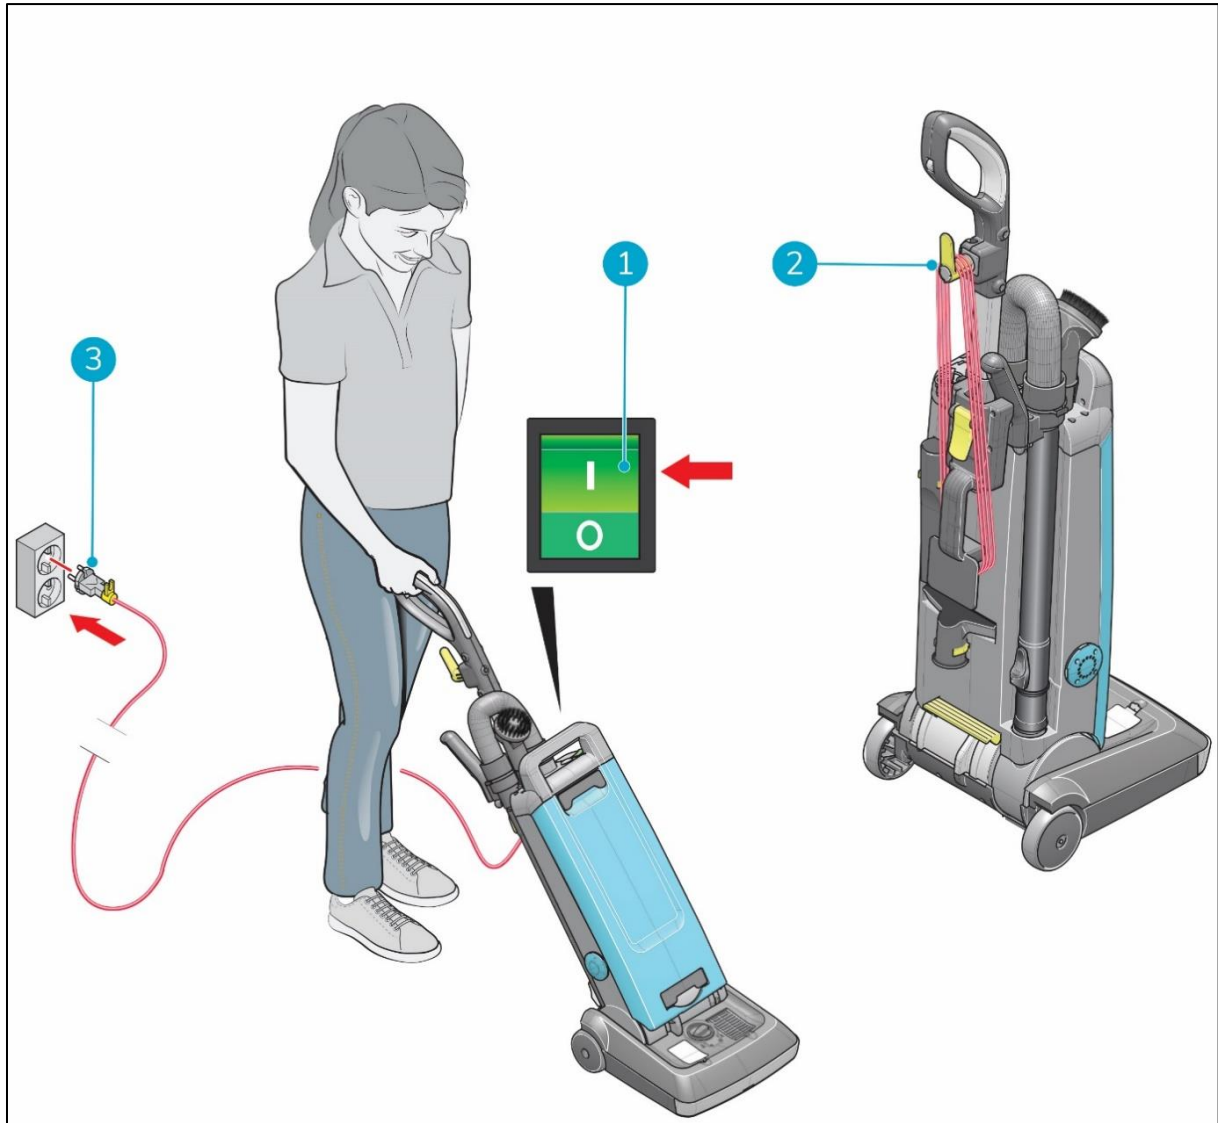

Figure 20
1. Press the ON/OFF switch (Figure 20, pos 1) at the top of the main body to turn off the i-vac 30UR®.
2. Remove the main power cable from the wall socket (Figure 20, pos 3).
3. Wind the main power cable over the hook and back handle (Figure 20, pos 2).